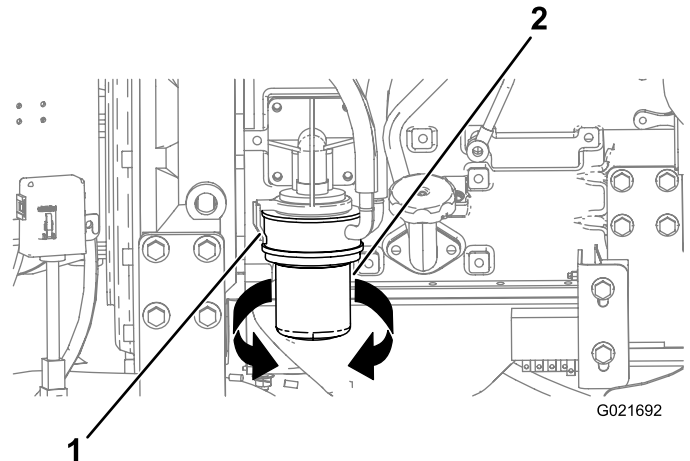

Figure 124
3. Align a drain pan or several rags under the oil filter and the oil-filter adapter (Figure 124).
4. Rotate the oil filter counterclockwise and remove the oil filter (Figure 124).
8. Align the oil filter to the oil-filter adapter and rotate it clockwise until the seal of the oil filter contacts the oil-filter adapter (Figure 124).
9. Hand tighten the oil filter an additional 1/2 turn (Figure 124).